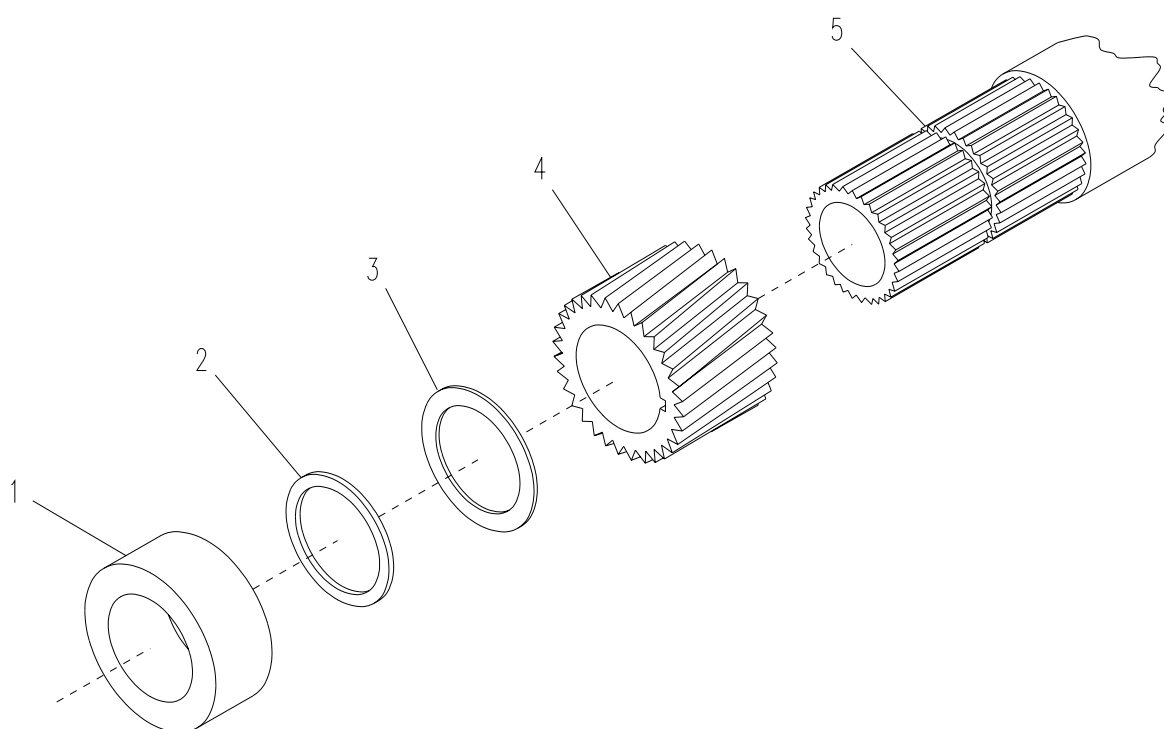

Figure 6-17. Crankshaft Gear
- a. Set up a dial indicator with its tip on a tooth of the crankshaft gear (4, Figure 6-17).
- (1) If oil clearance between idle gear shaft and idle gear bushing is within tolerance, replace crankshaft gear.
- (2) If oil clearance between idle gear shaft and idle gear is out of tolerance, replace idle gear bushing (para 6.14.) or idle gear shaft (para 6.15.) and retest crankshaft gear backlash. If backlash still exceeds 0.0059 in. (0.15 mm), replace crankshaft gear.